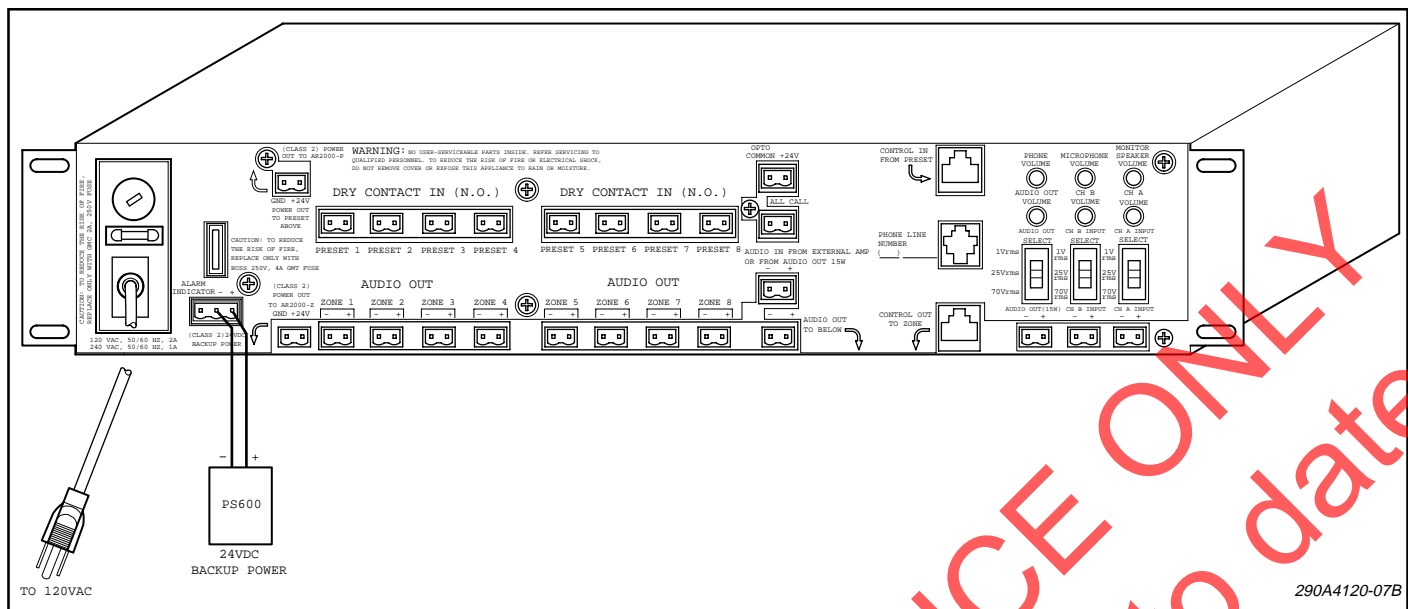

Figure 3-3.
A. Local Power (see figure 3-3).
B. Backup Power (See figure 3-3).
If it is desired to use 24 VDC either as a primary or auxiliary source of power, connect the “+” terminal of 24 volt DC power supply to the “+” terminal at the 24VDC BACKUP POWER terminal on the AR2000-M and “-” terminal of the 24 VDC power supply to the “-” terminal at the 24VDC BACKUP POWER terminal on the AR2000-M located in the back of the device. (See figure 3-3.)